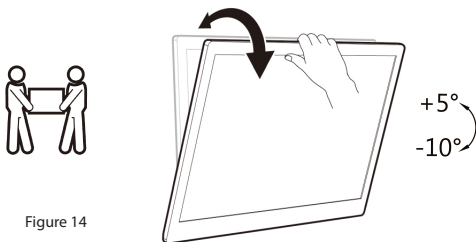

Figure 14
1. The **Mobile TV Cart** features toolless tilt angle adjustment. Hold the **TV** along the **horizontal edges** to tilt the **viewing angle**. (Figure 14)